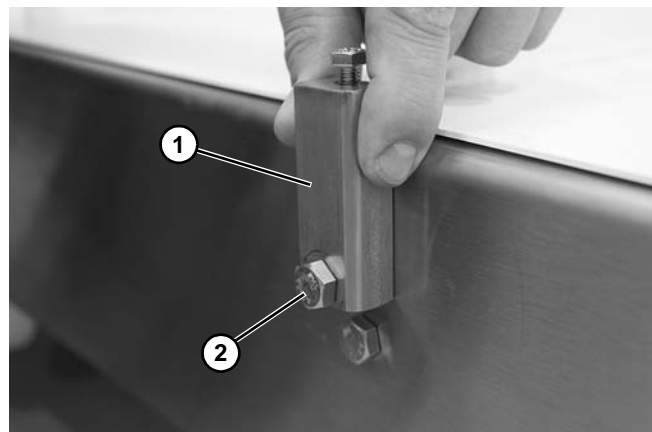

Figure 33
2. Assemble the mounting block (**Figure 33, item 1**) to the conveyor side with the screw (**Figure 33, item 2**) provided.